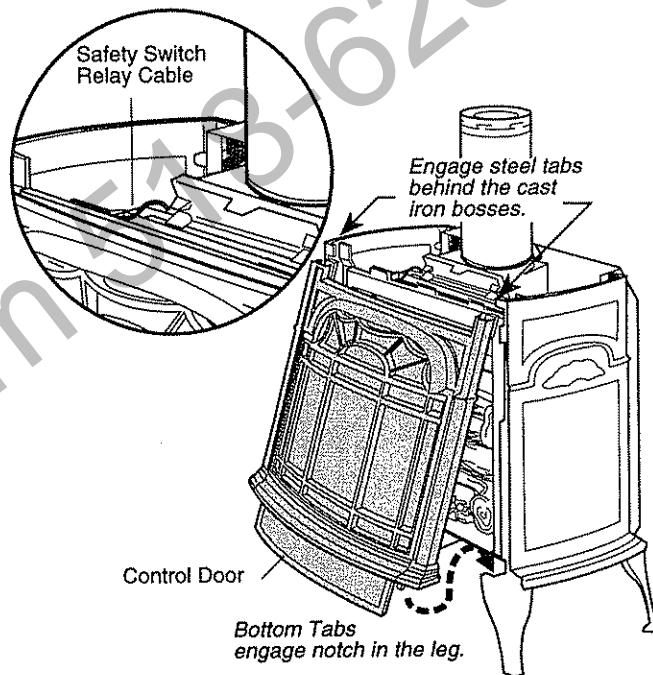

Figure 32. Install the Front Plate.
1. Grasp the Front Plate by the window bars and lift it into position engaging the two steel tabs behind the adjacent bosses in the Side Plates. Fig. 32. Then seat the Front against the sides so that the tabs at the bottom lip engage with the notches in the stove legs.
**NOTE:** Be sure that the steel safety switch relay cable is positioned over the Heat Exchanger door on top of the firebox. See Figs. 32 and 40a.